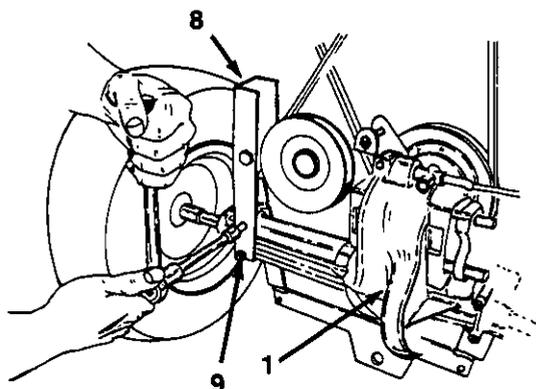

FIGURE 4.
6. Remove four hex bolts 3/8-16 x 2.50" long from transaxle and transaxle support. See figure 4.